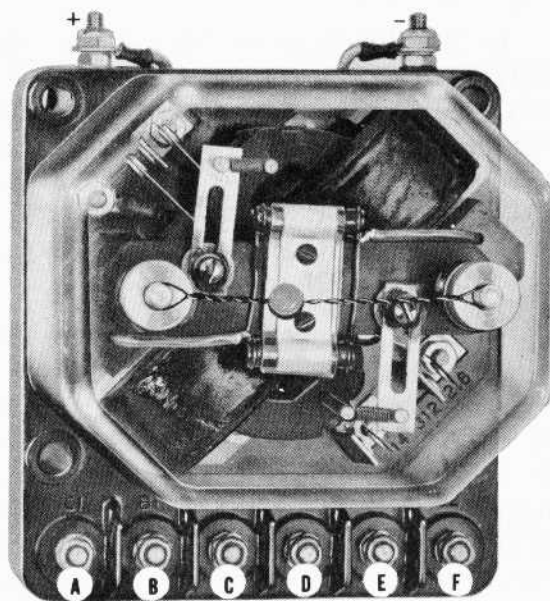
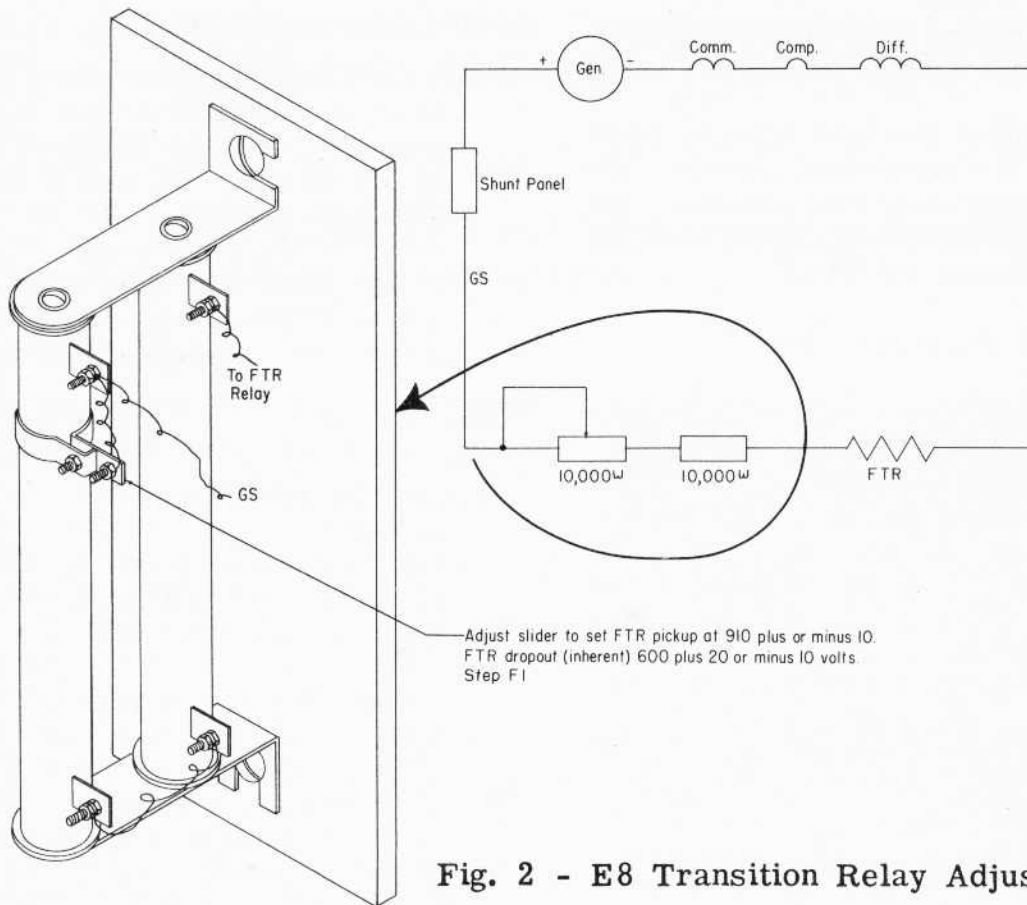

Fig. 1 - Forward Transition Relay (FTR)
Fig. 2 - E8 Transition Relay Adjustments
A manual sequence test of the automatic transition control circuit should be made at periods specified in Scheduled Maintenance Program, Maintenance Instruction 1704. The purpose of this test is to insure the proper functioning of the miscellaneous relays and contactors used in conjunction with the FTR (Forward Transition Relay) relay, Fig. 1, to provide automatic transition. The test also will insure the proper functioning of the interconnecting control circuits.
Place a jumper wire across the FTR-ab interlock and then jumper wire across the FTR-cd interlock, Fig. 1. This relay is located on the locomotive high and low voltage panel. When the jumper is applied to the "cd" interlock of FTR, TR or PR (depending on model of locomotive) should pick up and cause the SH to drop out. The shunt field dropping out then causes the BF to drop out. Refer to the specific locomotive wiring diagram and determine if proper relay and contactor action has taken place. Remove the jumper wire from FTR-cd after the TR or PR relays have closed. Now, removing the jumper wire from FTR-ab will cause transition from series to parallel to take place. Again refer to the locomotive wiring diagram and visually check to see that proper relay and contactor action has taken place. Transition from parallel to parallel-shunt is accomplished by re-jumpering the FTR-cd interlocks. This causes the FS (Field Shunting) contactor to pick up. This same contactor was referred to as an M contactor on Model E8 locomotives.
2. Disconnect the main generator negative lead to the FTR relay coil and fold lead back, Fig. 1. Connect the negative high voltage lead from motor-generator set and the negative lead of a 0-1000 voltmeter to the negative terminal post of the FTR coil. Connect the positive high voltage lead from motor-generator set and the positive lead of voltmeter to the upper terminal GS on the front resistor of the two 10,000 ohm resistors in series with FTR coil, see Figs. 2 and 3.
1. Increase motor-generator set voltage and check pickup of FTR relay. Adjust pickup of FTR with resistor slider to value shown in Fig. 2. Decrease test set voltage and check dropout of FTR relay. The relay dropout voltage is inherent in the relay and cannot be readily adjusted with the relay on the locomotive. See Maintenance Instruction 5360 for internal adjustment. With FTR relay picked up, reduce voltage until relay drops out, thus making transition to parallel.